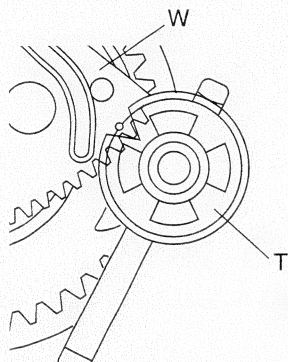

Fig. 2-7-43
2. Fix the draw loading arm assembly by using the two screws 4 so that the notch on the draw loading arm T faces towards the hole on the loading arm gear W (see Figs. 2-7-43 and 2-7-44).